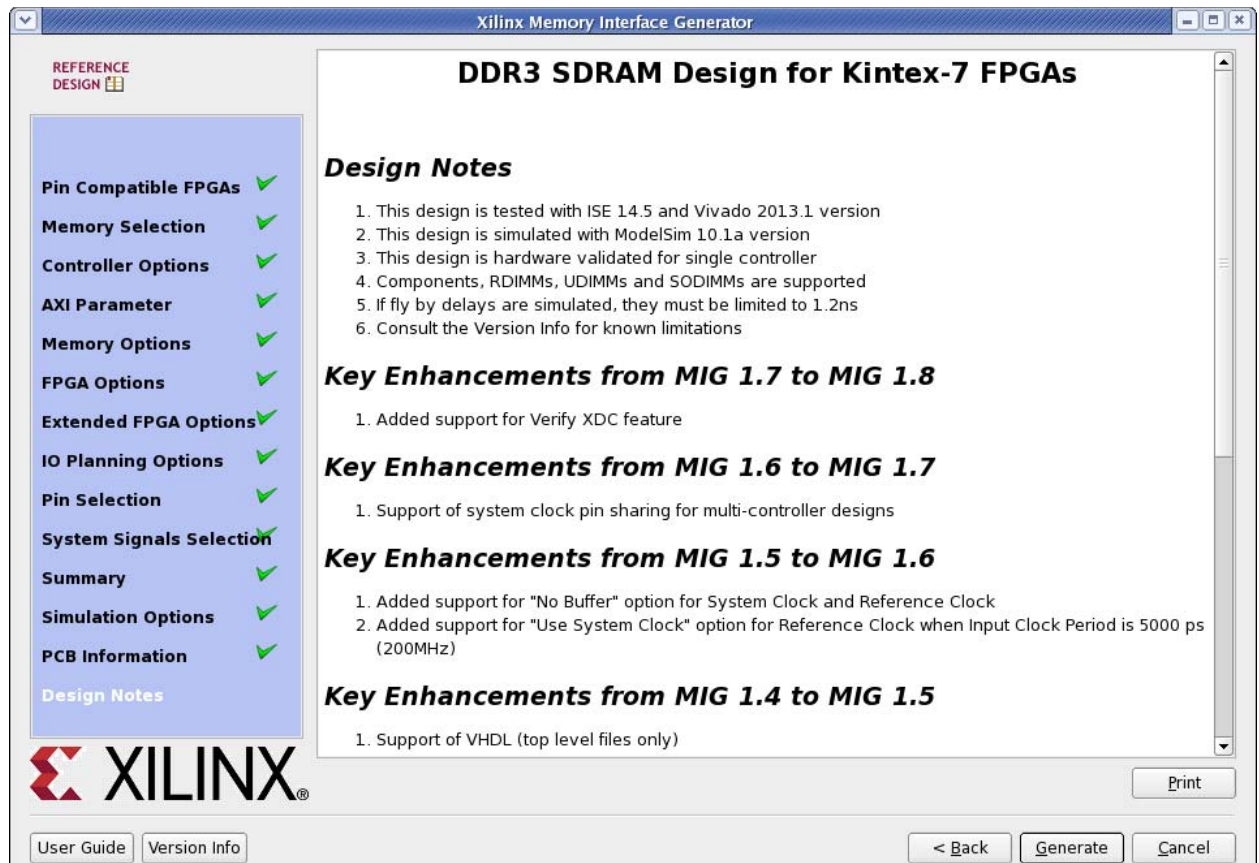

Figure 40: MIG Design Notes
20. Review the Design Notes and click **Generate** (Figure 40).